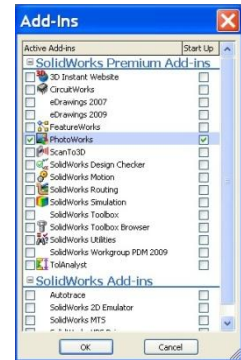

Figure 1
**Start the SolidWorks program, and from the main menu select *Tools:Add-Ins*. From the dialog box that appears, make sure that the *PhotoWorks* box is checked, as shown in Figure 1. Click OK to close the dialog box.**